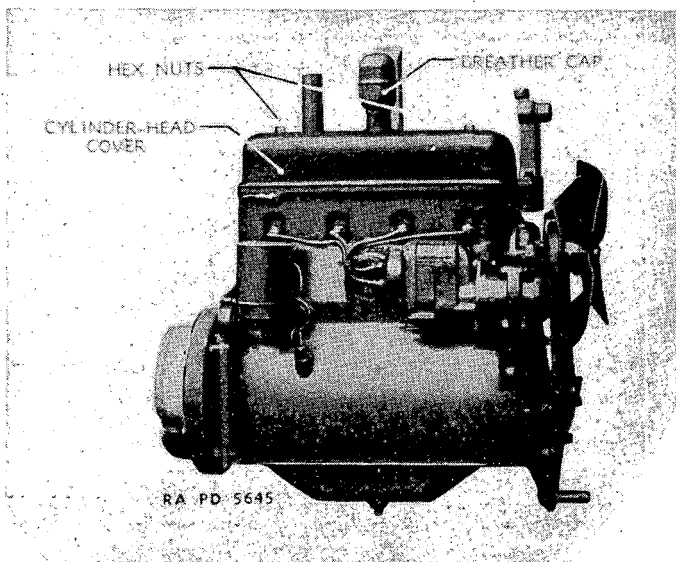

FIGURE 7.—Engine—right side view.
a. Remove the cylinder head cover (fig. 7) by removing the two hex nuts and their associated washers which hold it in place and lift off.